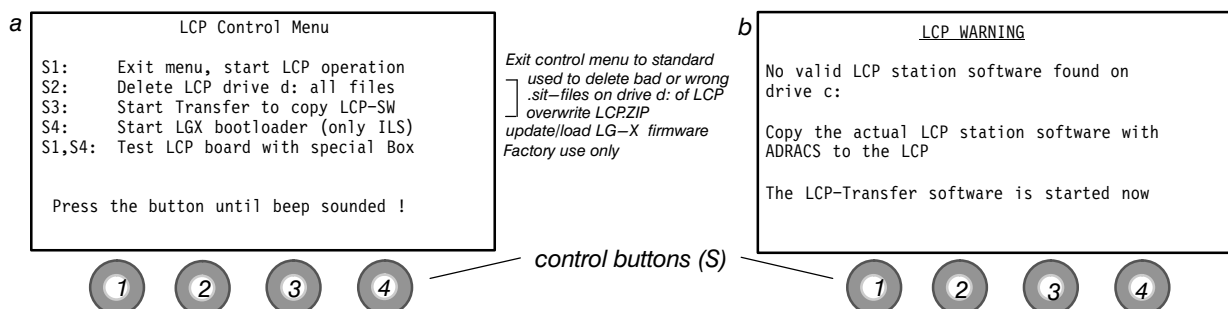

Fig. 6–8 LCP front panel with LCP Control Menu and LCP Warning Text (example)
- b) To start the special function menu, press buttons S1 and S4 simultaneously on the LCP immediately after power on with switches TX1 and TX2, and hold pressed until the LCP screen contains Control menu information (see Fig. 6–8 a).
- c) Press button S3 at least 1 s to select "Start Transfer to copy LCP–SW" (Fig. 6–8 a). This starts a routine to establish communication between PC (user program) and the LCP. Copy the file *LCP.ZIP* for ILS 420 to the LCP with the PC user program. Finishing this procedure the LCP is ready.
- b) To start the special function menu, press buttons S1 and S4 simultaneously on the LCP immediately after power on and hold pressed until screen of LCP contains Control menu information (see Fig. 6–8 a).
- c) Press button S4 at least 1 s to start the LGX bootloader menu (Fig. 6–9 a).
- d) Select one of the upcoming menu points (Fig. 6–9 a) according to the board which has to be installed.
- f) Confirm upcoming next menu "Load firmware to LGA–1 ?" pressing S4. The program menu answers with "Connection to LGA–1 established !" (Fig. 6–9 b). The bottom line shows the indication of bytes copied from PC to the LG–A board.
- g) Insert the floppy disk (or CD, if available) with program "Config420Setup\_ITCU.exe" to the Laptop. Start the program and follow the instructions (select menu *Function*, command *Load*). The loading process is now controlled by this software. As requested prepare the subassembly (here: LG–A of TX1) for loading procedure (see Fig. 6–5):